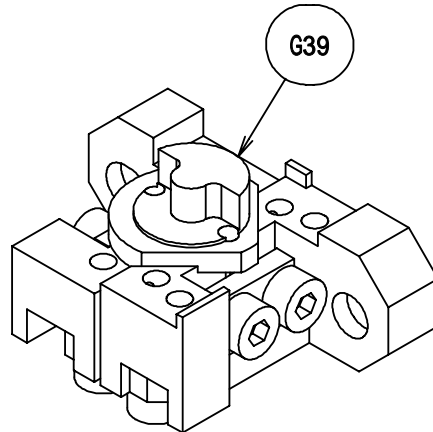

Fig. 17
3. As shown in **Fig. 17**, position the supporting electrode (G39) so that the bottom surface of the electrode contacts the concave portion of the grid assembly. Then place the grid (G38) on the supporting electrode. When placing the grid (G38), carefully attach it to the electrode so that it exactly contacts the wall of the electrode, and then loosen the bolts (G45). If the supporting electrode (G39) is not attached properly (displace from the correct position), this might break the filament and deteriorate the beam shape. So, properly attach it.